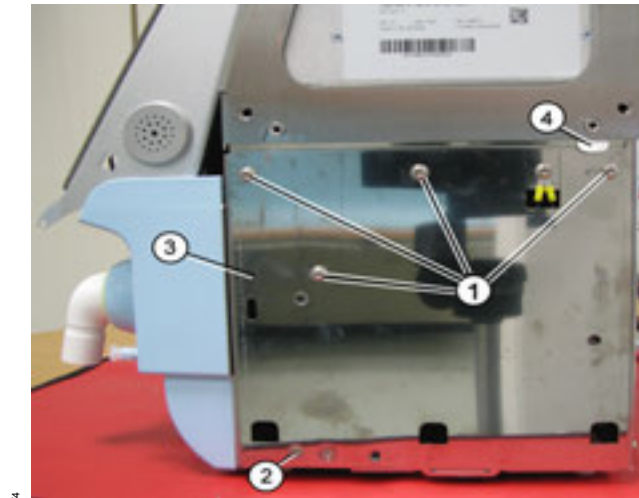

Fig. 62 Right side view of device: Screws (1)
- 2 Remove the screws (Fig. 62/1) and countersunk screw (Fig. 62/2) of the service flap (Fig. 62/3).
- 5 Push out the service flap (Fig. 62/3) under the tab (Fig. 62/4) of the sheet-metal housing and remove the service flap.